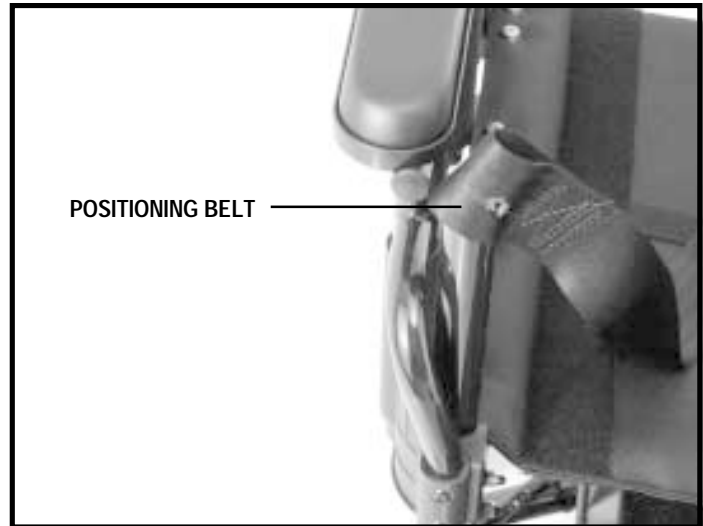

Figure 30. Positioning Belt Removal/Installation
4. Slip each end of the belt up and over the frame. See figure 30.